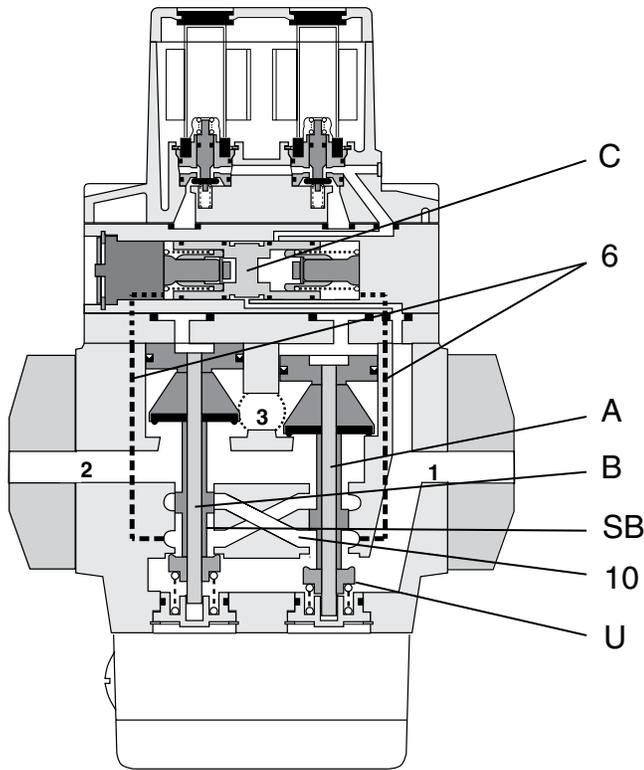

Figure 3 — Valve in Faulted Condition
Due to a mechanical or electrical malfunction one of the valve elements may not respond to its energizing signal, or alternatively, may not return to its normal position after the signal is removed. In either case, we have the condition depicted in Figure 3 — one valve element closed, one open. Inlet air flowing past open poppet U and into crossflow passage 10 is practically blocked by spool SB on valve element B. Although some air can pass around spool SB, the amount is so small and the exhausting capacity of the valve so large that the pressure at outlet 2 does not exceed two per cent of inlet pressure.
**Valve Exhaust 3.** **DO NOT RESTRICT THE EXHAUST.** Limiting the exhausting speed decreases an important safety feature of the double valve. During a malfunction in which only one of the valve elements has shifted, air escaping past the spool in the valve stem of the closed valve element (see Figure 3) must be quickly exhausted to keep outlet pressure at or below the design pressure of two per cent of inlet pressure. Therefore, use only a properly sized and designed silencer. See CAUTION on page 12.